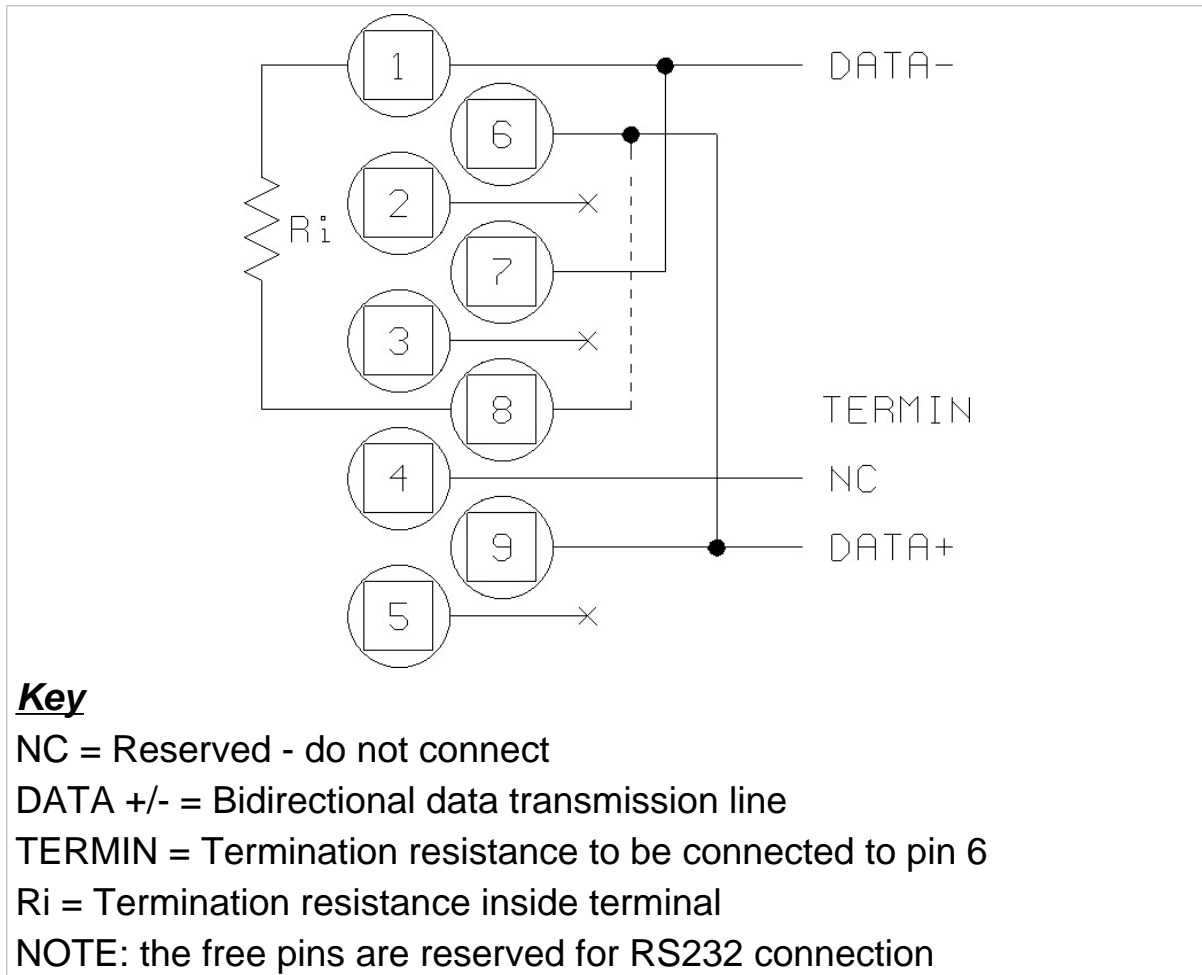

Figure 3.7 - Pinout for RS485 serial port connection (log0006.gif)
- ✓ connect together pins 9 and 6 and pins 1 and 7 (*Figure 3.7 on page 1-25*)